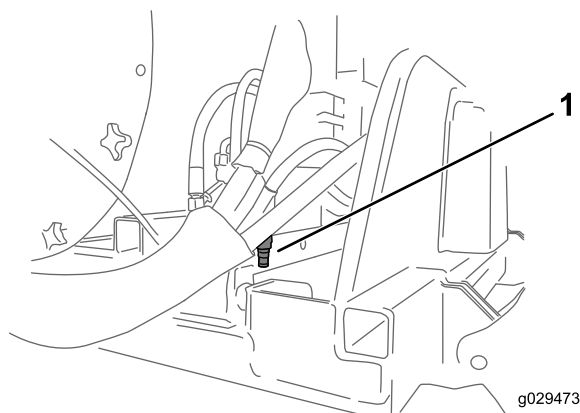

Figure 17
1. Remove the cap of the valve (Figure 17).